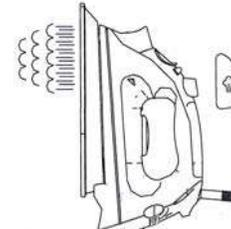

Fig. 5
4. For vertical steam, press the burst of steam button while holding the iron in a vertical position. See figure 5. The vertical steam function is useful for steaming curtains and drapes while still hanging.